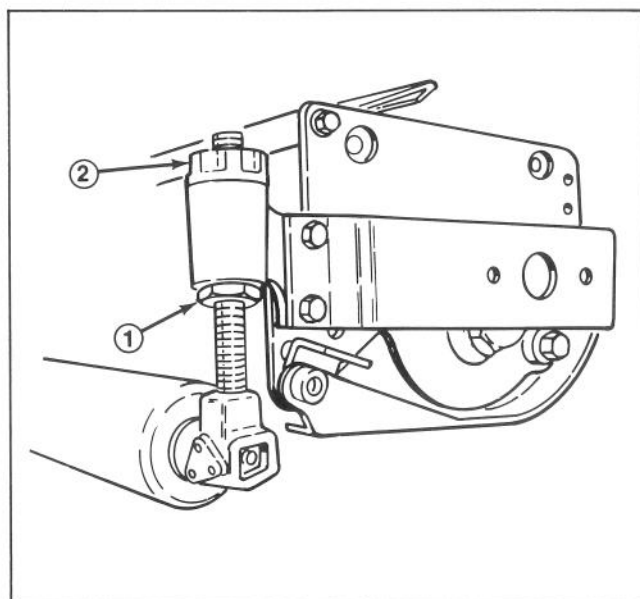

Figure 4
6. Loosen the cone nut on each roller adjuster and rotate adjustment knobs until desired thatching depth is attained (Fig. 4).